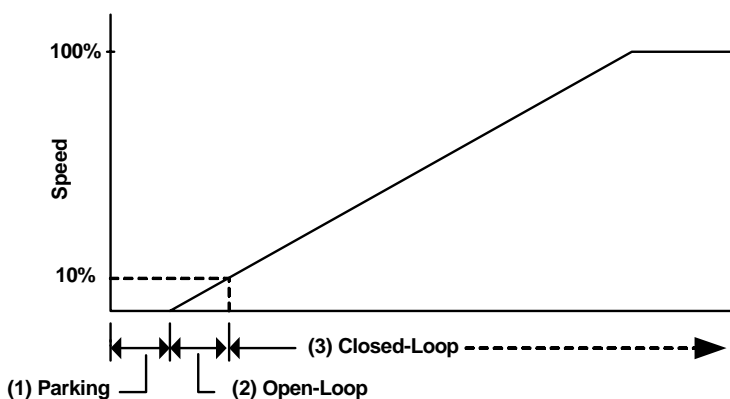

Figure 11. Drive Control Modes
In the IRMCK203 drive controller, there are 3 control modes (Figure 11) for estimation of the rotor angle for the entire speed range including zero speed. During motor start-up phase, the controller will go through these three control modes in sequence. These control modes are described below.
- 3) Closed-loop – motor speed increases during start-up; the motor voltage also builds up due to the increase in speed. Useful information for rotor angle estimation can be then be extracted from the motor voltage (estimated by using motor current and DC bus voltage). The drive will enter Closed-loop control mode as shown in Figure 11.